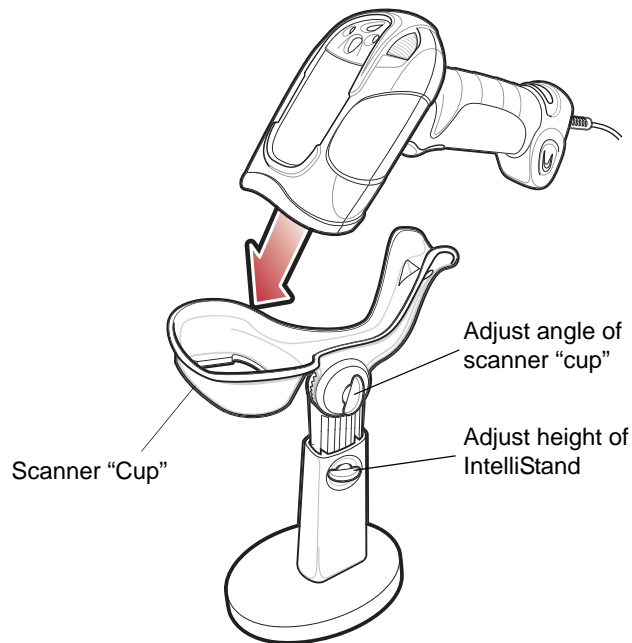

Figure 2-4 *Inserting the Scanner in the IntelliStand*
2. Insert the scanner into the IntelliStand by placing the front of the scanner into the stand's "cup" (see Figure 2-4).